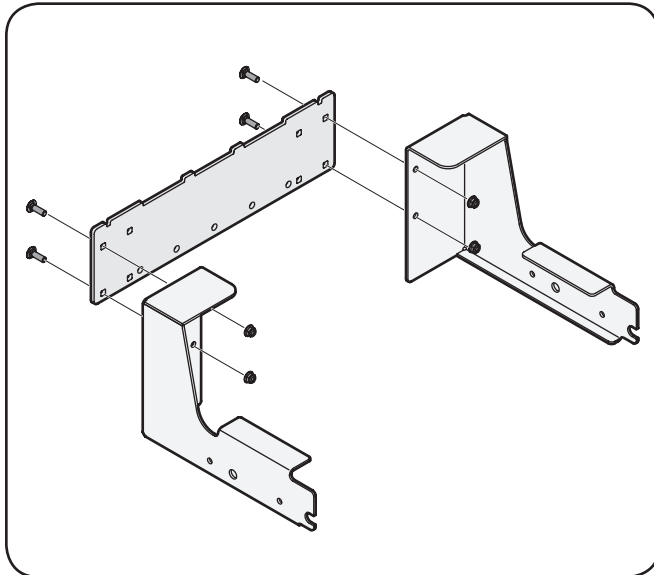

Figure 4-1
To assemble the bagger mounting assembly, locate the mounting assembly parts, as shown in Fig. 4-1, and follow these steps:
1. Attach the two hitch side brackets to the rear attachment bracket using four 710-0276 carriage bolts and 712-04063 flange lock nuts from hardware pack 689-00093. See Fig. 4-1.